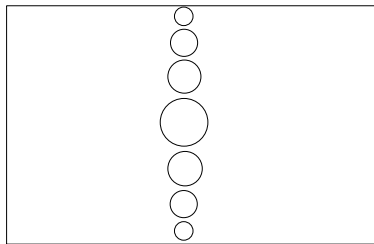

FIG. 2
- Vertical curtain lens (fig. 2)
Screw for Anti-removal system - Fig.2
Once the cable and wall attachment holes have been made, take the measurement to attach an anchor (3 mm) to the anti-removal system. (see above fig.1 and fig.2)